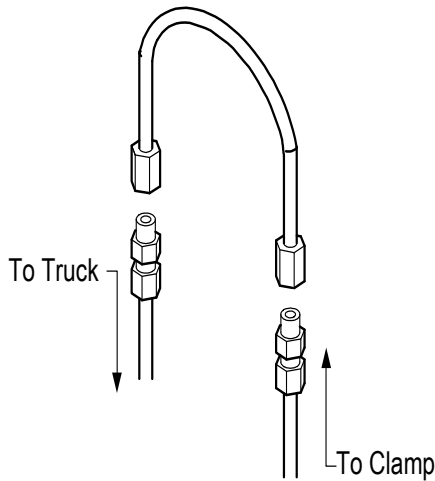

Figure 4-1, Jumper Line
3. Purging can be accomplished by installing a jumper line and operating each hydraulic function (clamp, rotate and side shift if equipped) in each direction for a minimum of 30 seconds. (Figure 4-1)